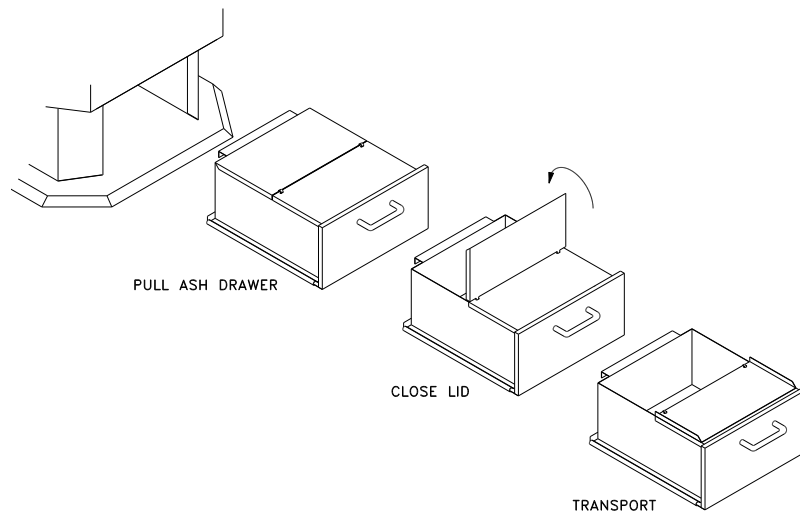

Figure 4: Ash removal
5. Cover the plug with the remaining ashes and continue operation of your stove as usual. The Ash Drawer is shown in Figure 4 and can be removed by pulling it out toward you. Lift the Ash Drawer slightly or the pedestal base may get scratched. Close the rear half of the Ash Drawer lid to prevent spillage. Ashes should be placed in a metal container with a tightly fitting lid. This closed container should be placed on a non-combustible floor or on the ground, well away from all combustible materials,